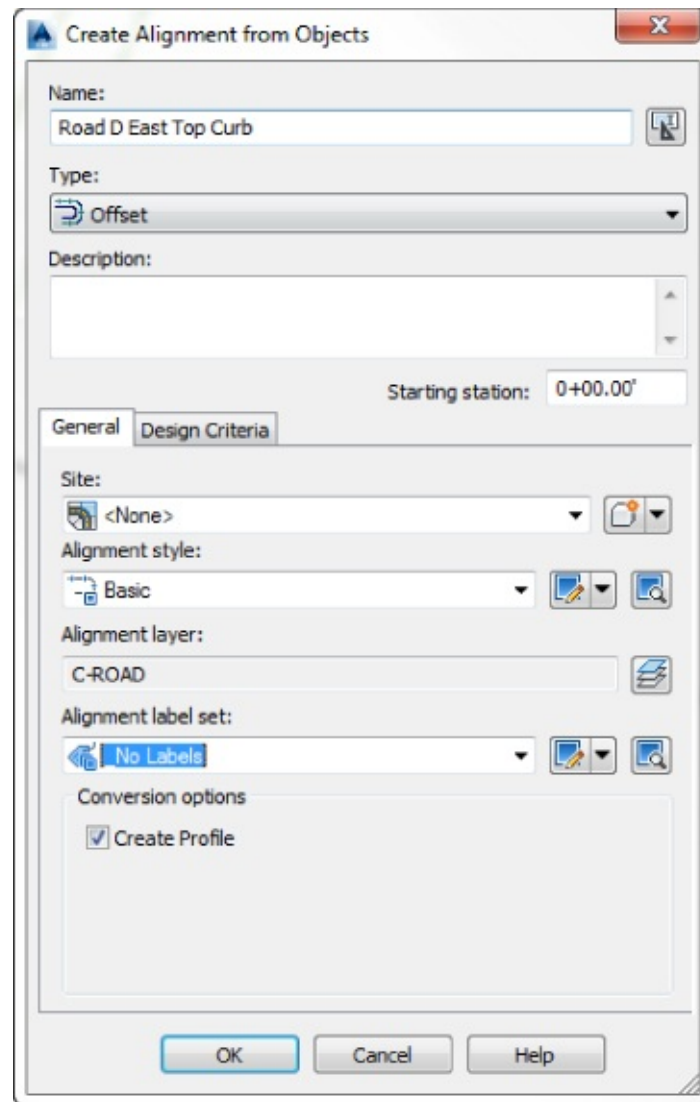

Figure 9.24 The completed Create Alignment From Objects dialog
- The dialog should match Figure 9.24.